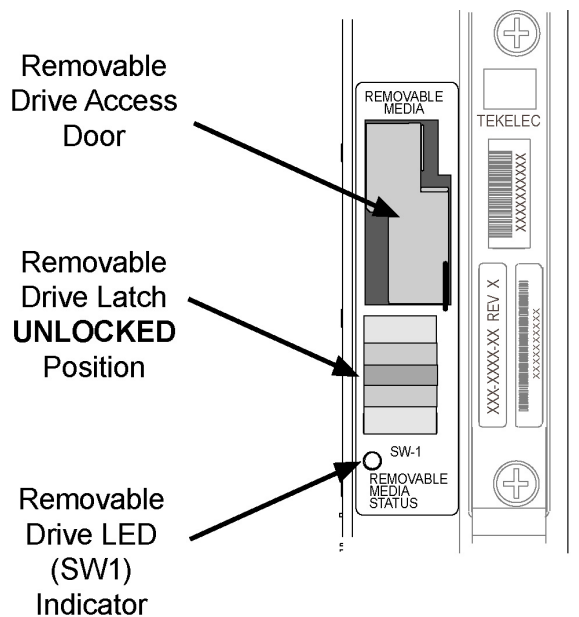

Figure 3: Removable USB Drive UNLOCKED
2. Move SW1 from the LOCKED to the unlocked position and wait for the LED to indicate a steady blue state. See Figure 3: Removable USB Drive UNLOCKED.